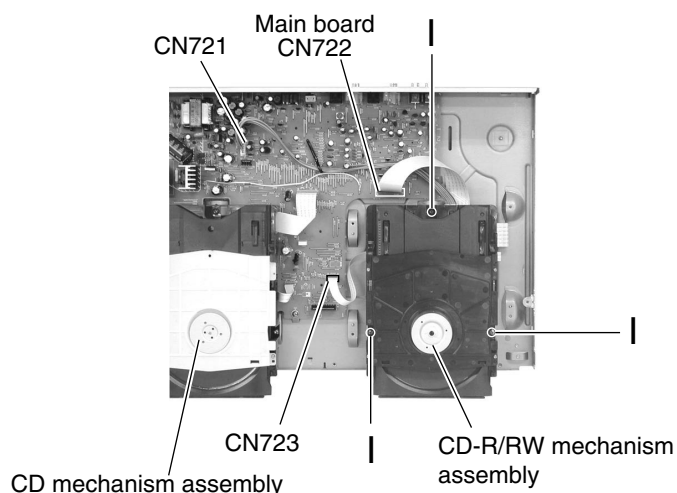

Fig.16
■ Removing the CD-R/RW mechanism assembly (See Fig.16)